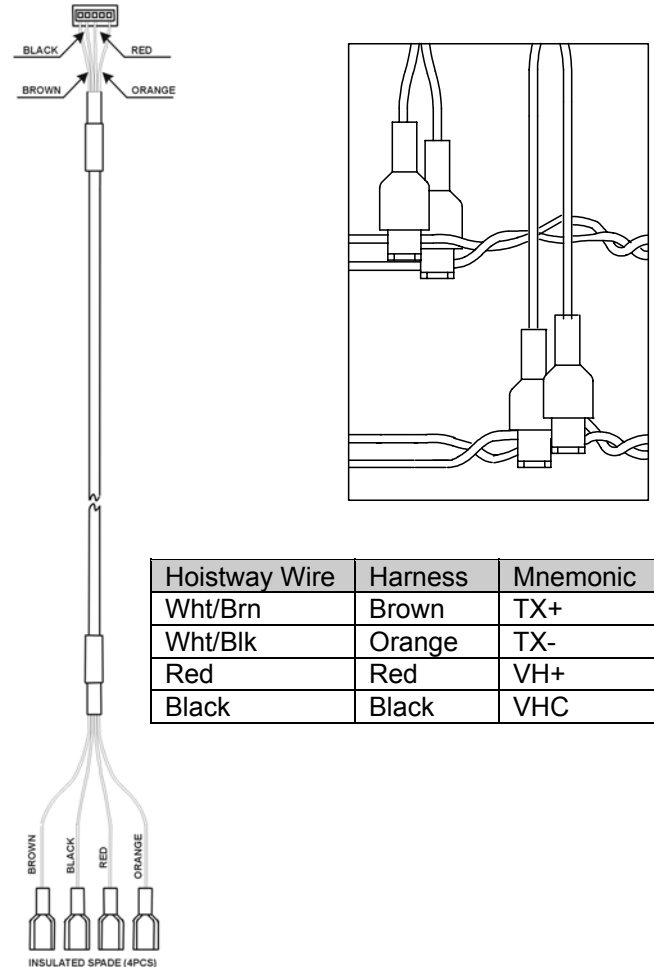

Figure 1-27
- Connect the cable to the wires using the provided fasteners. [See Figure 1-27.]